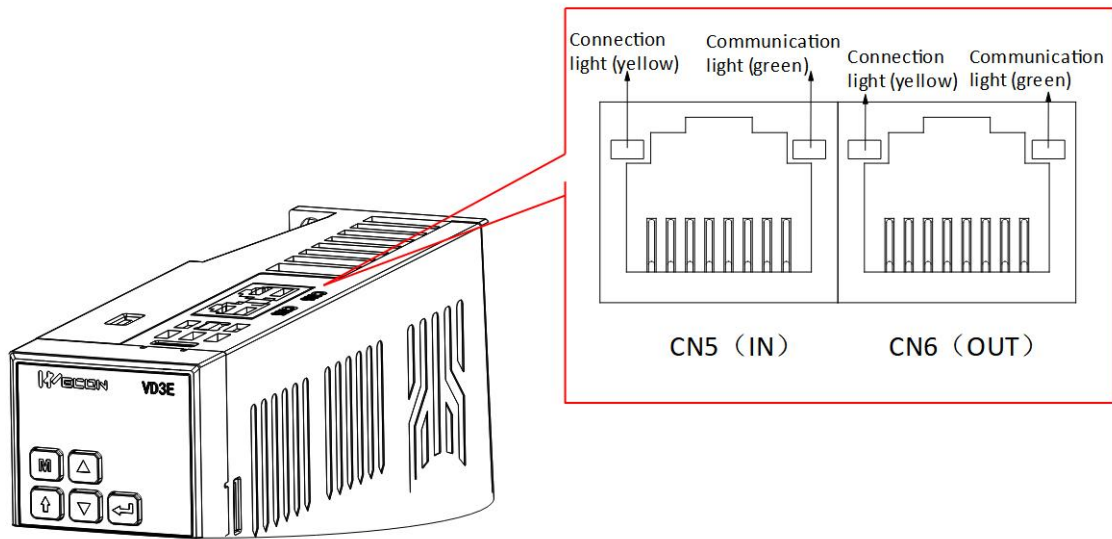

Figure 6-4 Communication indicator position
The communication indicator for the VD3E servo drive is located on the CN5 (IN), CN6 (OUT) sockets, as shown in Figure 6-4.